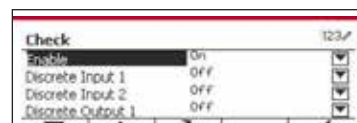

Figure 62
3. In the Application mode menu, enter Check submenu. The Check submenu is now displayed. (See Figure 62)